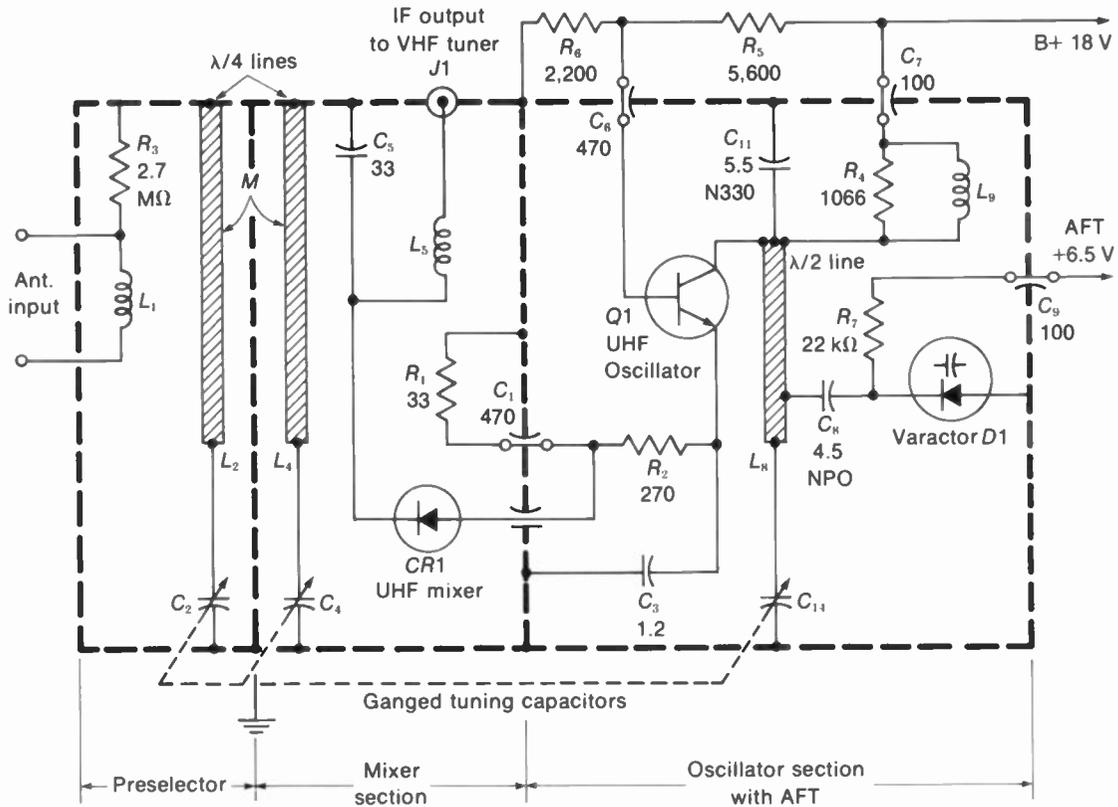

FIGURE 24-24 UHF TUNER WITH GANGED TUNING CAPACITORS. R IN OHMS AND C IN pF. (RCA KRK 185)
In Fig. 24-24, the UHF tuner is divided into three metal compartments, or cavities, as indicated by the heavy lines in the diagram. Each cavity corresponds to a resonant transmission line. The equivalent inductances  $L_2$ ,  $L_4$ , and  $L_8$  are tuned by  $C_2$ ,  $C_3$ , and  $C_{14}$ . These capacitors are on a common shaft for continuous tuning.
**AFT on UHF tuner.** The varactor  $D1$  in Fig. 24-24 is used to control the oscillator frequency.